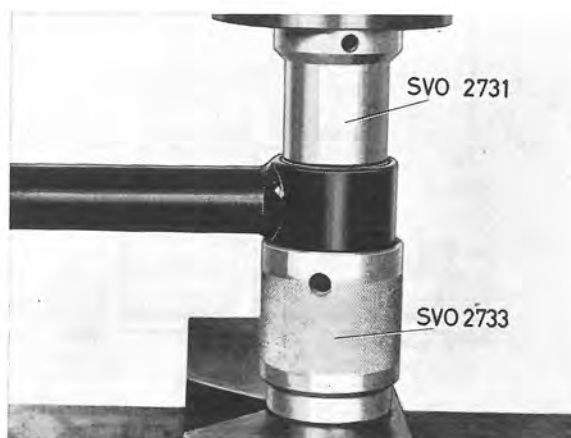
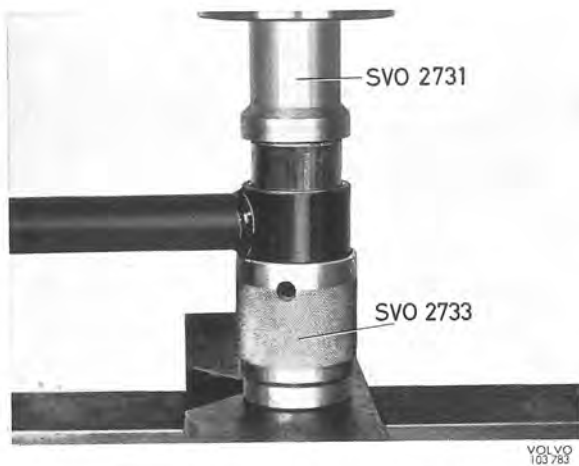

Fig. 7-13. Removing large bush, track bar
Fig. 7-14. Installing large bush, track bar
4. If necessary, press out the small bushes with 2730 using 2733 as a counterhold. (Fig. 7-13). Pressing in the bushes can be done with the same tools only in this case 2730 is reversed (Fig. 7-14).